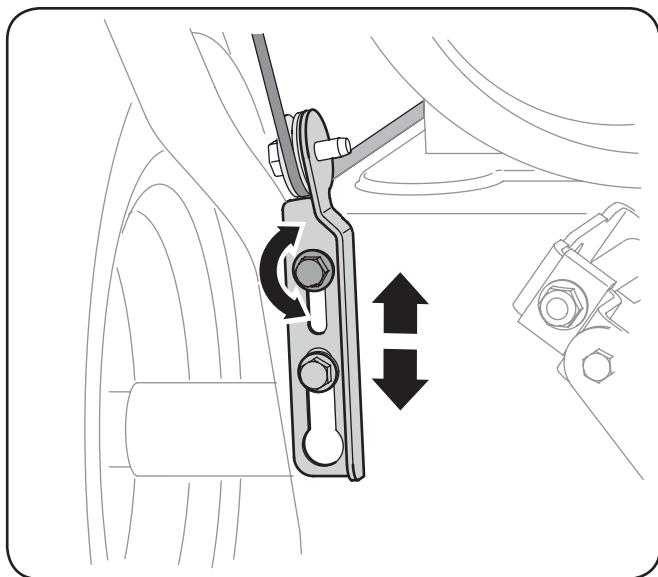

Fig. 3-15
4. Allow the auger to remain engaged for approximately ten (10) seconds before releasing the auger control. Repeat this several times.
8. Position the bracket upward to provide more slack (or downward to increase cable tension). See Fig. 3-15.